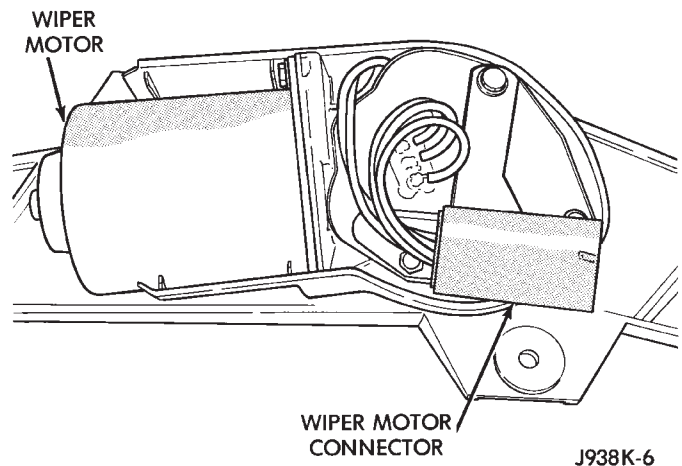

Fig. 1 Wiper Motor Connector
(8) Remove intermittent wiper module and plug connectors together from the module. The Wipers should operate in LO and HI speed modes and Mist (washer) should work. If wipers and Mist now operate, replace intermittent wiper module. If not, go to step 10.
(9) Measure voltage at harness connector terminal E with wiper switch in LO and mist/intermittent. Meter should read battery voltage. If not, test switch.
(10) Measure voltage at harness connector terminal C with wiper switch in HI. Meter should read battery voltage. If not, test switch.
(11) Measure voltage at harness connector terminal F and move wiper switch to OFF. Meter should read battery voltage until wipers park and then zero volts. If not, replace switch.
(12) Disconnect switch side of connector of intermittent wiper module.
(13) Measure resistance across terminals A and D while rotating switch from minimum delay to maximum delay. Meter should read 0-500K ohms. If not, test switch.
(14) Measure resistance across terminals A and G while rotating switch from minimum delay to maximum delay. Meter should read 0-500K ohms. If OK, replace wiper module. If not, test switch.
(15) Measure resistance at terminal 4. Meter should read zero ohms. If not, repair open to ground.
(16) To test the wiper motor turn the ignition switch to ACCY. Position the wiper and probe the motor connector as indicated Figure 1.